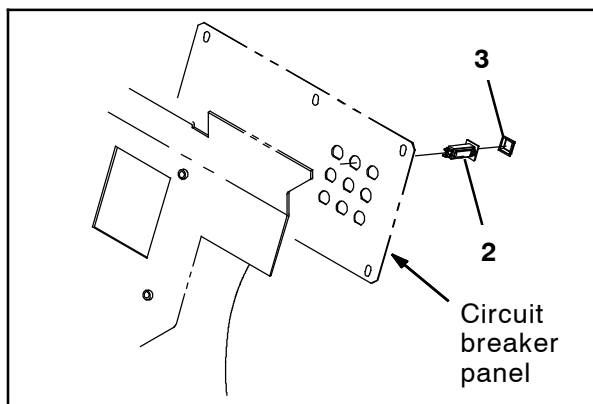

FIG. 5
17. Install the circuit breaker (2) and boot (3) into the circuit breaker plate. (Fig. 5)